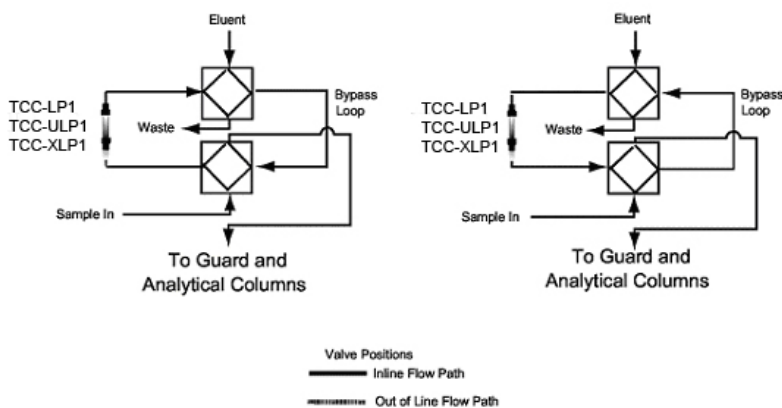
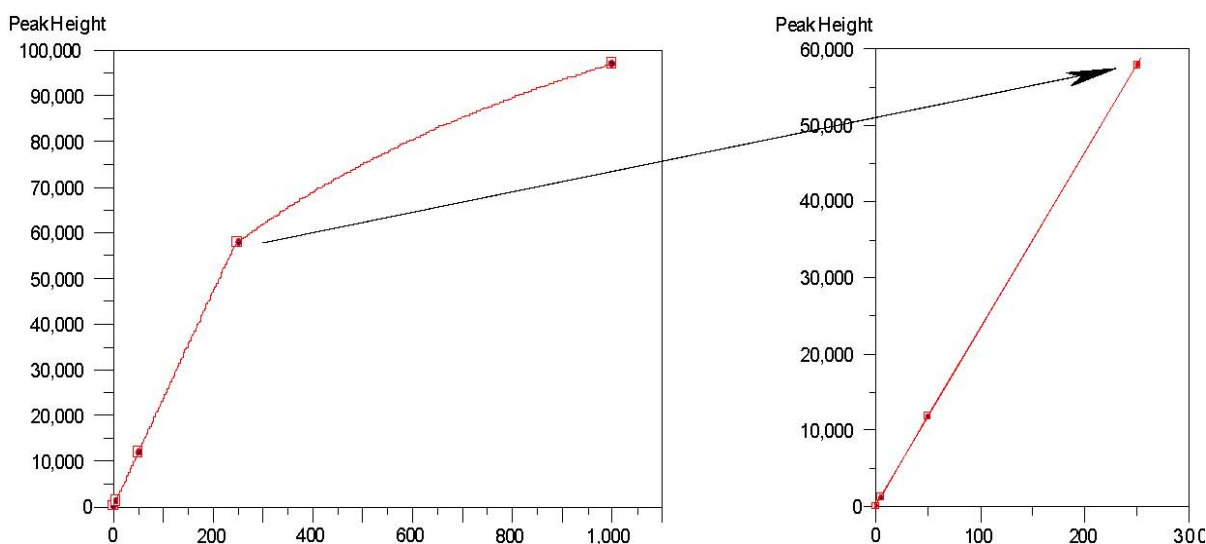

FIGURE 4
FIGURE 5
After the sample has been loaded onto the TCC-LP1, TCC-ULP1, or TCC-XLP1 in the direction opposite to the eluent flow, it is then "back flushed" with eluent onto the guard and analytical columns (see Figure 4, "Loading the TCC-LP1, TCC-ULP1, or TCC-XLP1 Column"). This configuration concentrates the cations in a tight band at the bottom of the TCC columns. When injected, all of the ions are rapidly eluted off of the TCC columns, and onto the guard and analytical columns. If the sample is loaded onto the TCC-LP1, TCC-ULP1, or TCC-XLP1 in the same flow direction as the eluent flow, the cations are concentrated at the head of the column rather than at the bottom. When injected, the cations begin chromatographic separation on the concentrator before reaching the guard and analytical columns. Therefore, the retention time of the analytes would be significantly longer than a standard loop injection. Normally the function of the concentrator is to strip the ions of interest from the sample matrix and not to act as an analytical column.
Figure 4 shows the configuration for sample loading using a slider valve.
- D. A plot of response versus concentration should be generated as in Figure 5, "Linearity of Lithium Concentrator Injection," for the determination of the maximum amount of sample or standard that can be quantitatively loaded. In Figure 4, "Linearity of Lithium Concentrator Injection," the break in the curve where linearity starts to change is at a concentration volume of 1 mL of $250 \mu\text{g/L}$ lithium. For practical purposes the amount concentrated for a series of samples should be 75% of this value. This will ensure that there is a safety margin built into the concentration process in case a sample in a series of concentration experiments has a slightly higher ionic concentration.